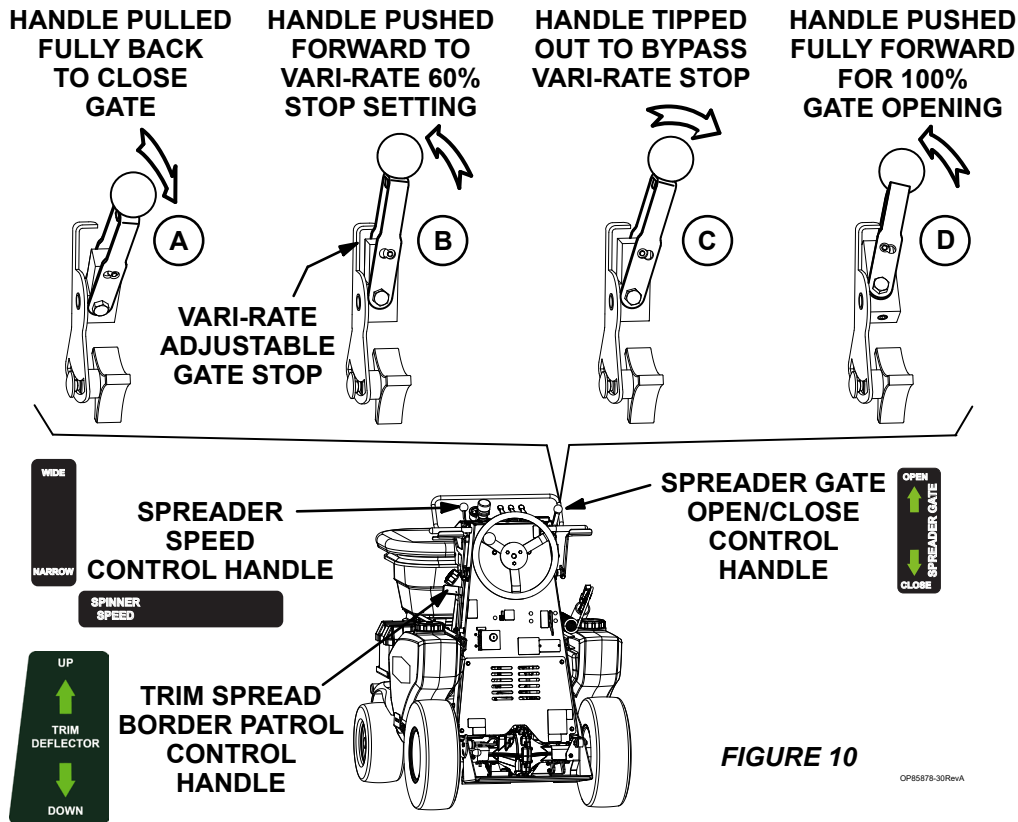
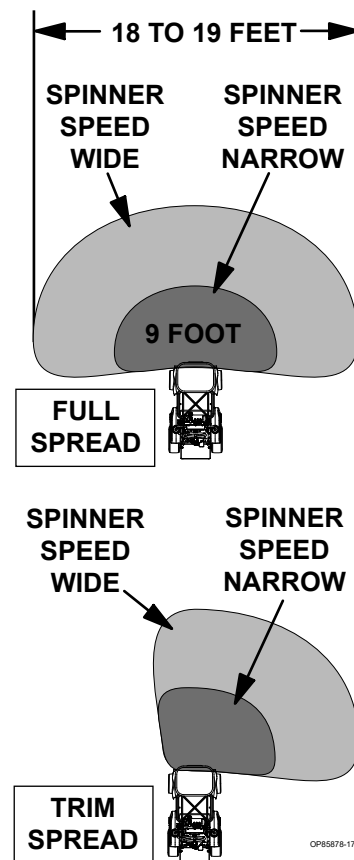

FIGURE 10
FIGURE 11
2. Pull the Trim Spread Handle back to lower the boarder patrol deflector (ON).
3. Open the Spreader Gate Open/Close Handle. Handle should be positioned to stop at Vari-Rate stop - See Position "B" in Figure 10. This way you will be spreading only to the right and the rate will be at 60% of the full rate. The spread pattern will start approximately 2" to 3" inches to the left of the front tire and spread out to the far right.
See Position "B" in Figure 10. This way you will be spreading a narrow pattern (approximate 5 to 6 foot) at 60% of the full rate and it will only be going to the right (See Figure 11).
4. Open the Spreader Gate Open/Close Control handle. Handle should be positioned to stop at Vari-Rate stop - See Position "B" in Figure 10. This way you will be spreading a narrow pattern (approximate 9 foot or less) at 60% of the full rate.